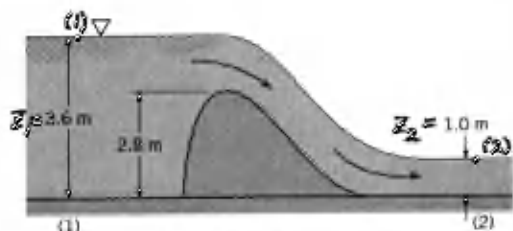

FIGURE P3.16R
3.16R (Channel flow) Water flows over the spillway shown in Fig. P3.16R. If the velocity is uniform at sections (1) and (2) and viscous effects are negligible, determine the flow rate per unit width of the spillway.